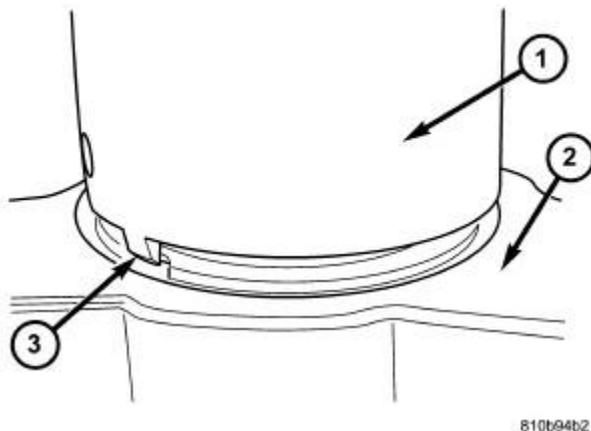

Fig. 189: Stake Output Shaft Nut
7. Press downward on the staking tool until the staking pin contacts the output shaft nut flange. Refer to **Fig. 189**.